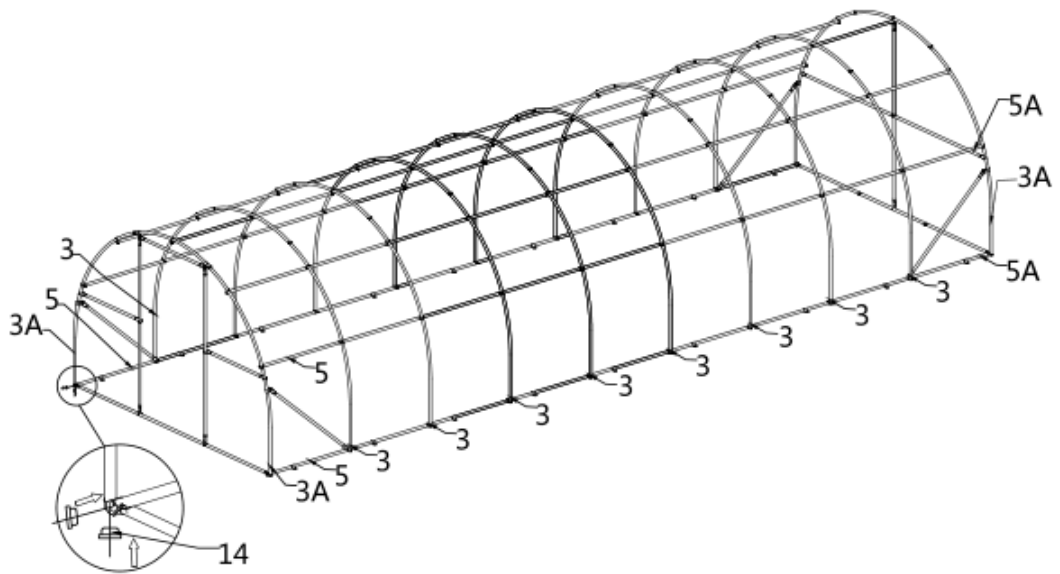

Figure 10
- The ends of rafters (#3A) and (#3) at the lower part of the truss, as well as the outer roof purlin (#5) and (#5A) at the front and rear truss, shall be provided with waterproof plugs. (refer to figure 10)
- (34) Water plug (#14)